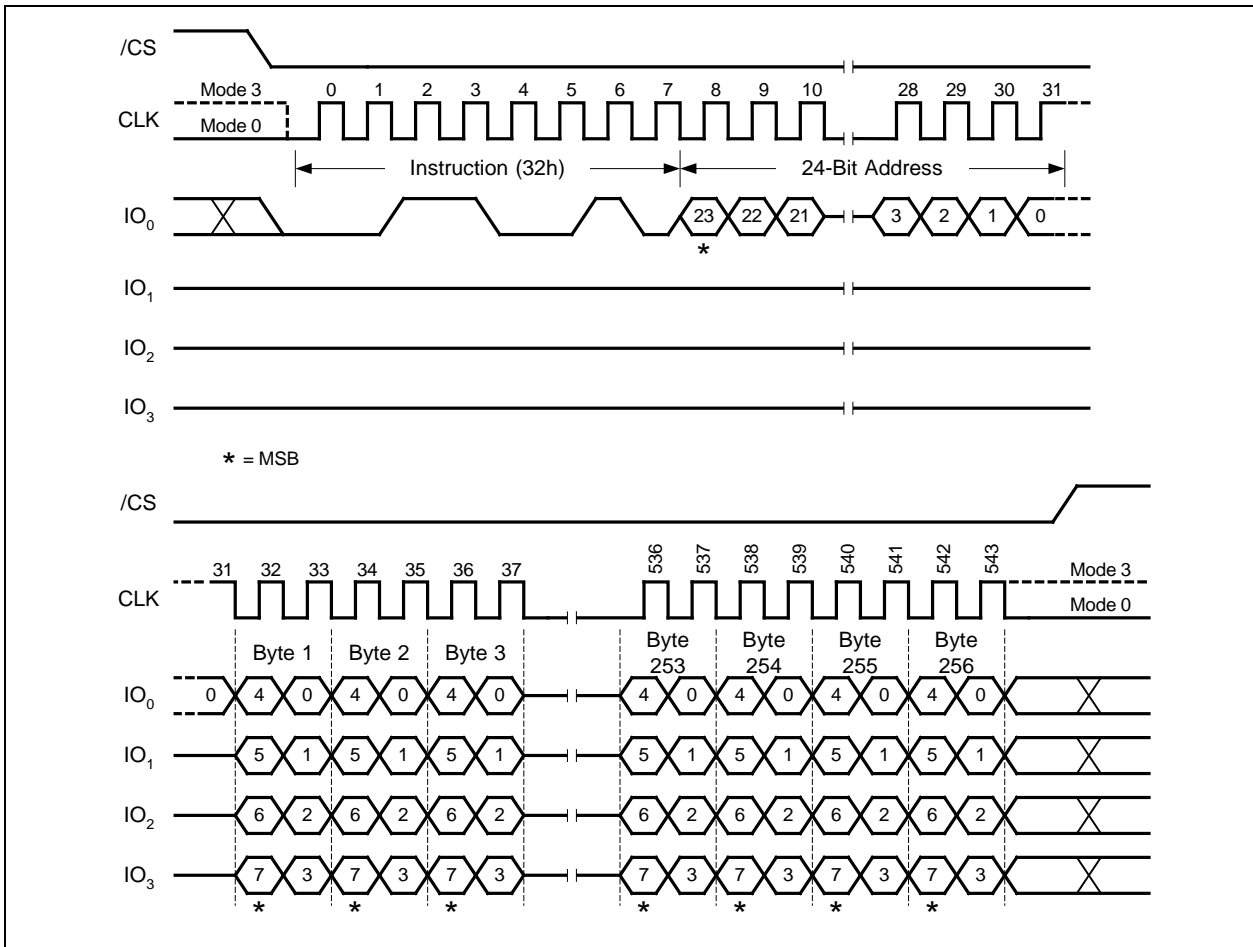

Figure 17. Quad Input Page Program Instruction
To use Quad Page Program the Quad Enable (QE) bit in Status Register-2 must be set to 1. A Write Enable instruction must be executed before the device will accept the Quad Page Program instruction (Status Register-1, WEL=1). The instruction is initiated by driving the /CS pin low then shifting the instruction code “32h” followed by a 24-bit address (A23-A0) and at least one data byte, into the IO pins. The /CS pin must be held low for the entire length of the instruction while data is being sent to the device. All other functions of Quad Page Program are identical to standard Page Program. The Quad Page Program instruction sequence is shown in Figure 17.